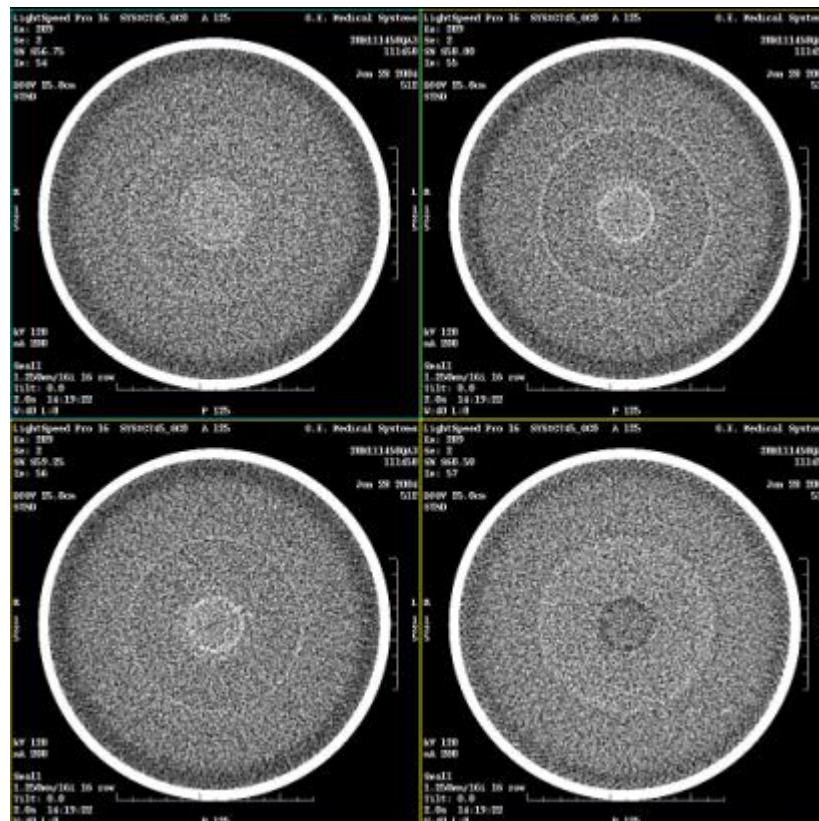

Figure 1 Sample images showing power supply related issue
1. Using the water phantom, perform a generic service scan (service protocol 42.1) to check for existing image artifacts. If an artifact exists continue with this FMI to see if the artifact is related to the Digital power supply cable defect before troubleshooting further. See Figure 1 for a sample an artifact that could be caused by the power supply cable problem.